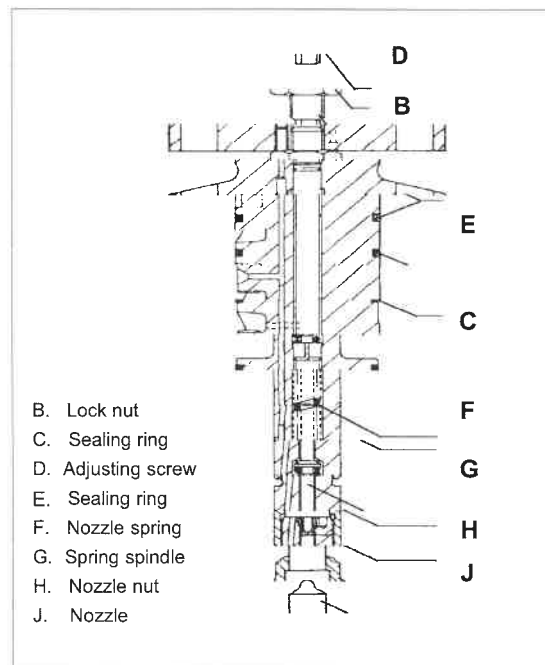

Fig 2 Fuel injection valve.
2. Mount the fuel injection valve into the clamping bracket VTO-W020 (see plate 52014, item 025) on the pressure testing pump, and loosen the lock nut (B) fig 2. Unstress the nozzle spring by turning the adjusting screw (D).
3. Clean the lower part of the nozzle (J) from carbonized oil deposits before dismantling the nozzle nut (H). Remove the nozzle nut (H) and the nozzle (J).
16. For test of the injection pressure and atomizing mount the test pipe VTO-W021 (see plate 52014 item 049), increase pressure by means of the lever on the test pump, and adjust the opening pressure to 320 bar, by the adjusting screw (D), see fig 2, then tighten lock nut (B) and check opening pressure again.